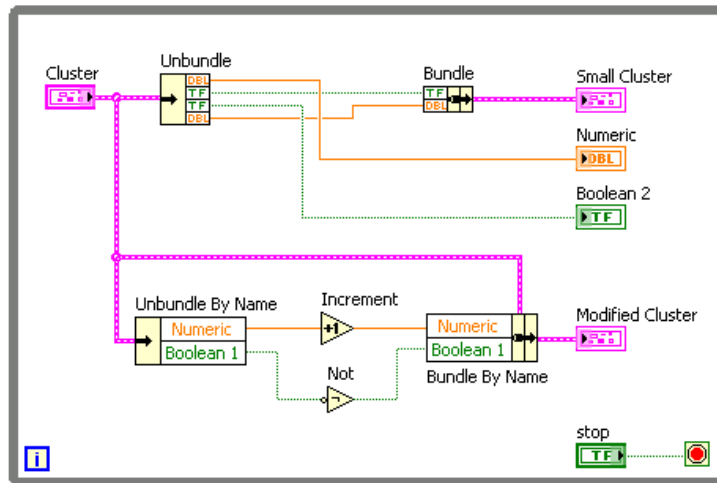

Figure 6.9
1. Build the block diagram in Figure 6.9.
- h. Complete the block diagram and wire the objects as shown in Figure 6.9.